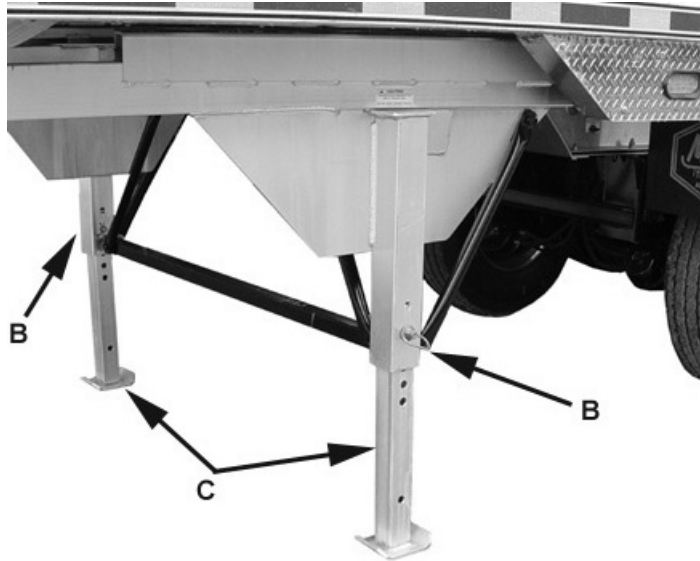

Figure 6-4 No-Load Support Legs
4. Your trailer may be equipped with a two speed landing gear, or no-load support legs. MAC Trailer uses a two speed landing gear from several different manufacturers. High speed may be "in" on some models and "out" on others. High speed is used only when landing gear is off the ground. Engage the crank handle (A) and lower the landing gear until it makes firm contact with the ground, blocks or pads. Switch to low gear and crank an additional 4-8 turns.
For no-load support legs, pull retaining pins and pins (B), fully extend the no-load legs (C) and insert pins and retaining pins. Return the two speed landing gear crank handle to the storage position. See figure 6-4.